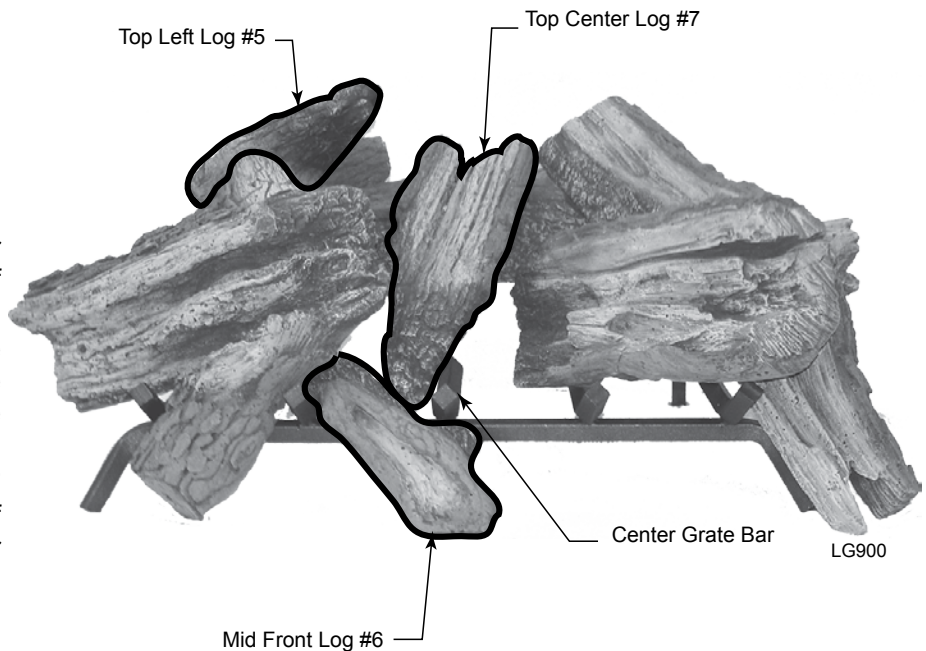

Figure 105 - Place Top Left & Center Logs and Mid Front Log
6. Place Top Left Log #5 behind rear log #1 on the notch on rear left of grate stand. *Figure 105*
7. Place Mid Front Log #6 on grate between center and middle left grate bars. Fit notch on back of log on the cross grate bar. *Figure 105*
8. Place wide end of Top Center Log #7 on rear log #1. Rest narrow end of top center log #7 to the left of center grate bar barely touching the mid log #6. *Figure 105*